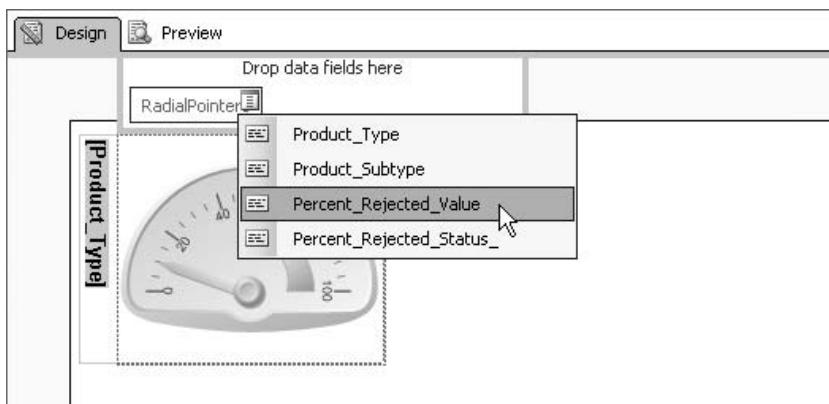

Figure 16-64 Selecting the field for the gauge pointer
58. Click the field selector, and then click the Percent\_Rejected\_Value field, as shown in Figure 16-64.